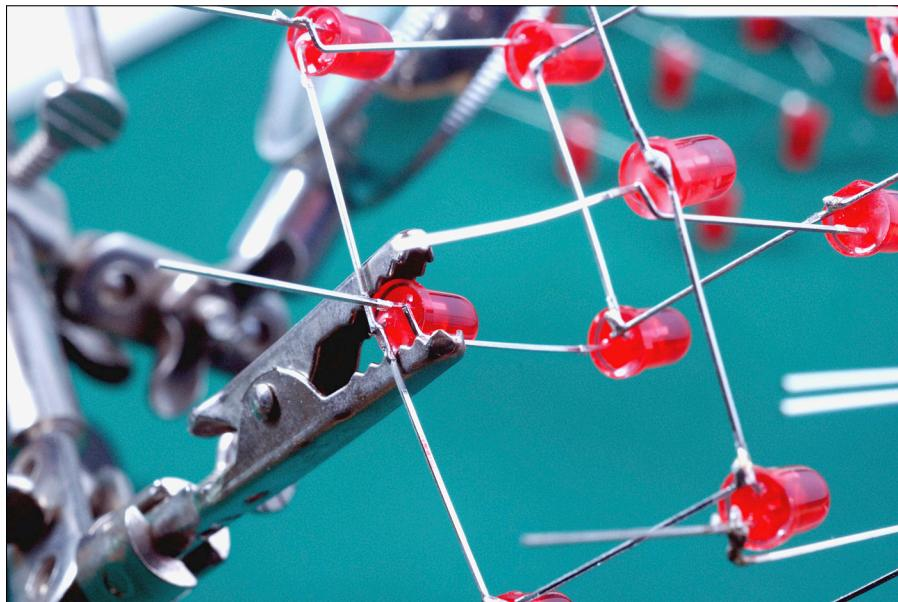

Figure 15-6:
- This is the point when it's good to have about five limbs! Use your "helping hands" or an alligator clip to hold things together while you make the solder joint, as shown in Figure 15-6. Try to work quickly so that you don't overheat the LEDs.